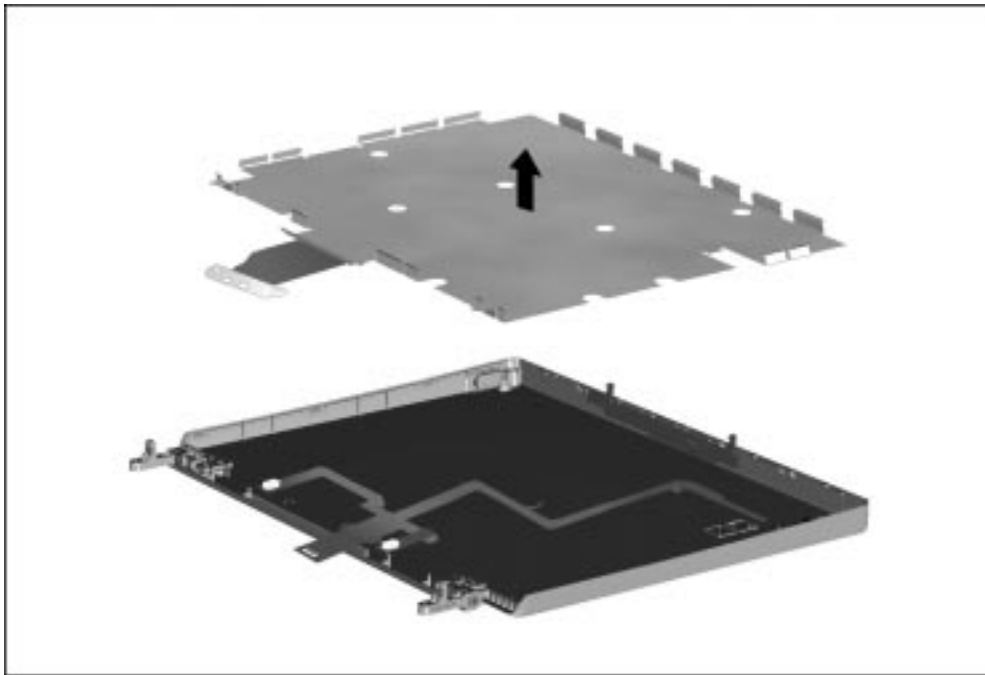

Figure 5-71. Removing the Display Shield and Ground Cable
12. Remove the display shield and ground cable from the display enclosure (Figure 5-71).